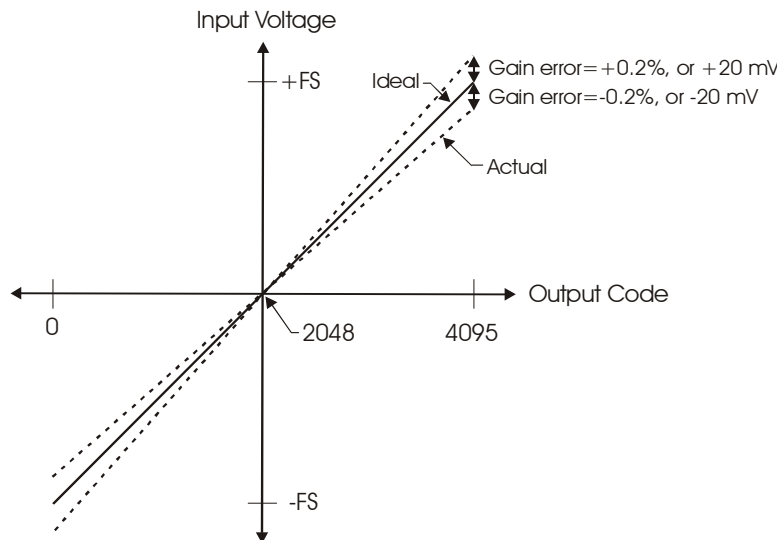

Figure 3-11. ADC Transfer function with gain error
Gain error is a change in the slope of the transfer function from the ideal, and is typically expressed as a percentage of full-scale. Figure 3-11 shows the miniLAB 1008 transfer function with gain error. Gain error is easily converted to voltage by multiplying the full-scale (FS) input by the error.
The accuracy plots in Figure 3-11 are drawn for clarity and are not drawn to scale.